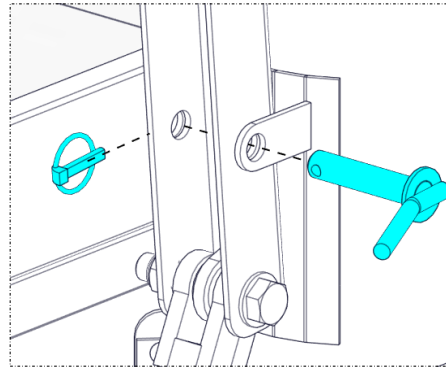

Figure 4.17
- 6) Insert the lock pin and lynch pin to secure the cylinder lock to the auger tube (Figure 4.17). The angle of the discharge auger can now be adjusted using the tractor hydraulics.